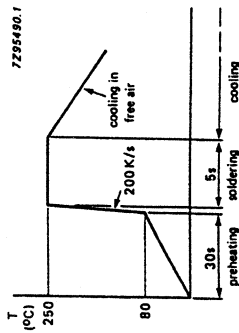

Fig. 2 Wave soldering. If necessary, the resistors may be soldered twice in accordance with this method.
Surface mounted resistors are tested for solderability at a temperature of 230 $^{\circ}\text{C}$ for a period of 2 seconds. The test condition for no-leaching is 255 $^{\circ}\text{C}$ for a period of 60 seconds. Typical examples of soldering processes resulting in reliable joints are shown in Figs 2, 3, and 4.
Fig. 2 "Stand-up" type SFR25A, for vertical mounting. The bent lead is partially covered with an insulating lacquer with a breakdown voltage of at least 50 V (DC); resistor shown in 'mounted' situation.